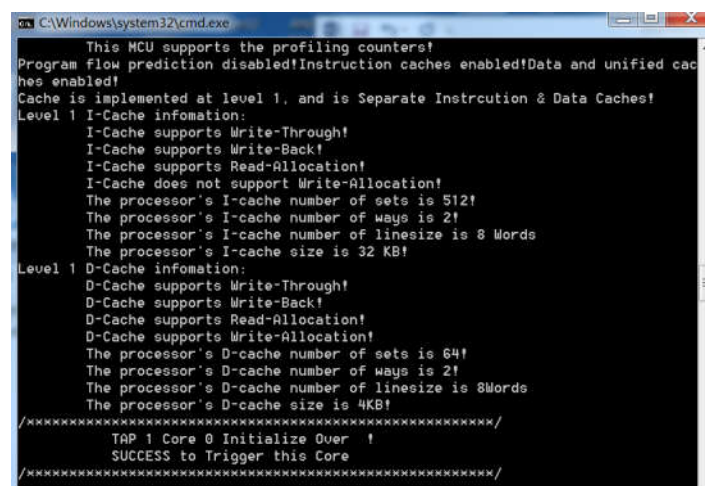

Fig 1-17 RLX Probe window
- c) Open RLX Probe in **project\realtek_amebaD_va0_example\EWARM-RELEASE\probe\cm4\cm4_RTL_Probe**, as Fig 1-17 shows.